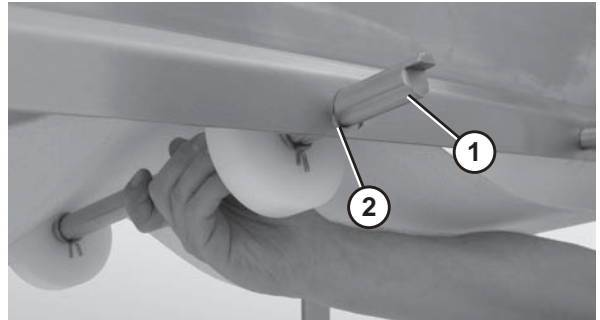

Figure 48
5. Remove the belt returns by pushing up on the return shaft (**Figure 48, item 1**) and sliding it through the large hole (**Figure 48, item 2**) in the frame.
6. Lower the opposite end of the return shaft (**Figure 48, item 1**) and slide it out of the frame.